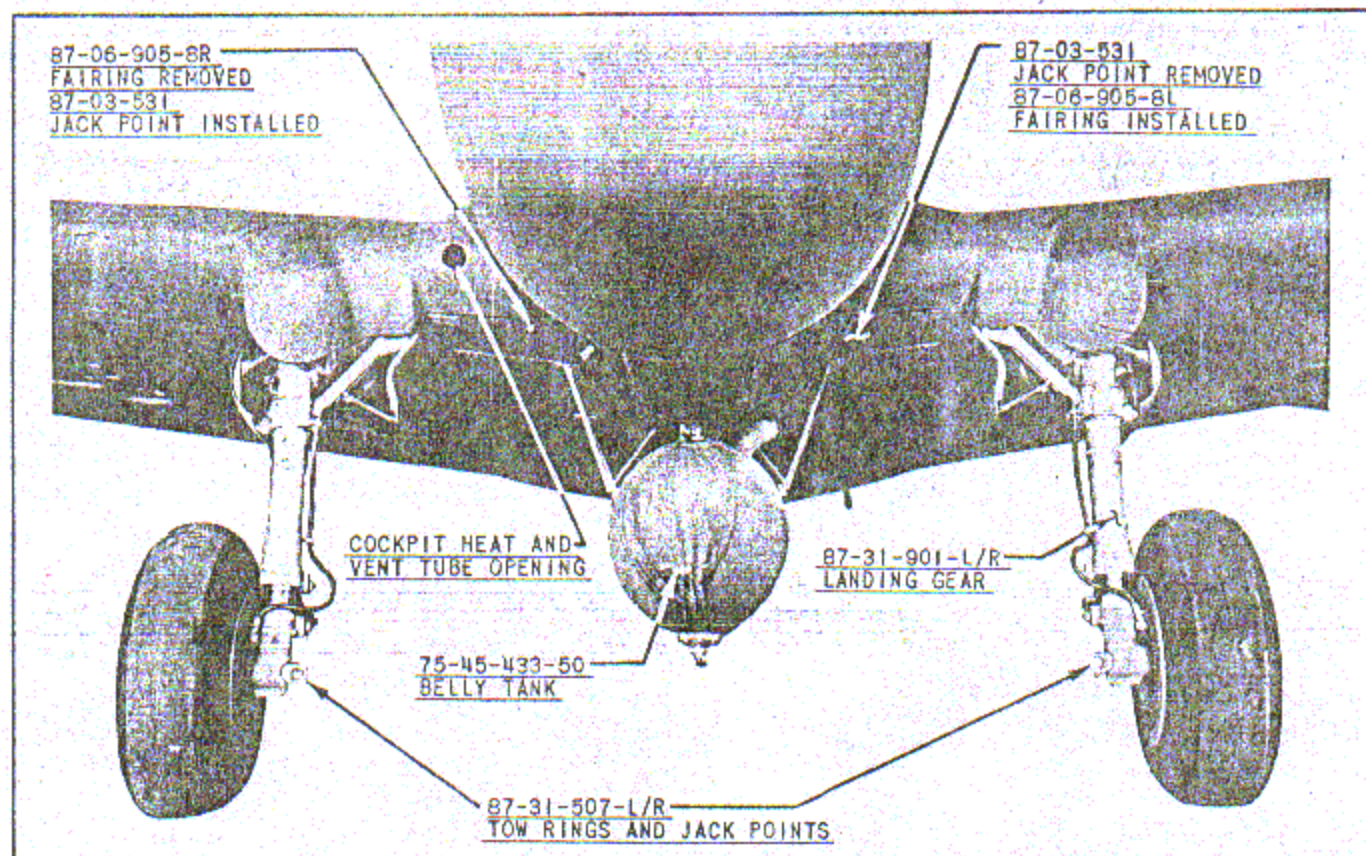

Fig. 4 - Jackpoints and tow rings.
(3) The tail is hoisted by attaching the tail hoisting sling (87-88-019) to the tail lifting bar inserted in the tube in the aft end of the fuselage. See Figure 4.